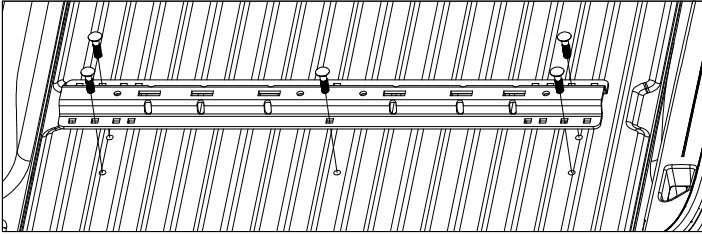
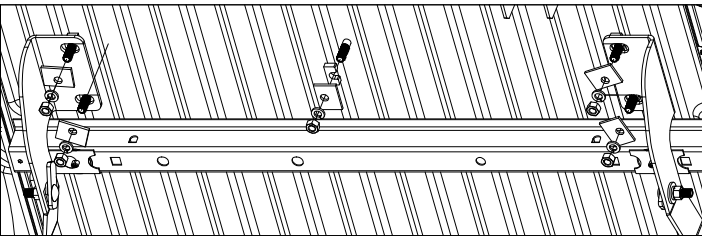

Figure E1: View looking into truck bed from rear of truck.
Figure E2: View under bed looking up toward cab. (Frame not shown)
1. **Install the rear mounting rail.** Re-position the rear mounting rail over the drilled 9/16" holes in the bed. Install a 1/2" carriage bolt through the mounting rail into each of the five drilled holes, as shown in Figure E1. Under the bed install an offset square washer, 1/2" lock washers and 1/2" finish nuts on each of the carriage bolts, see Figure E2. Place the U-shaped spacers. Hand tighten each nut.